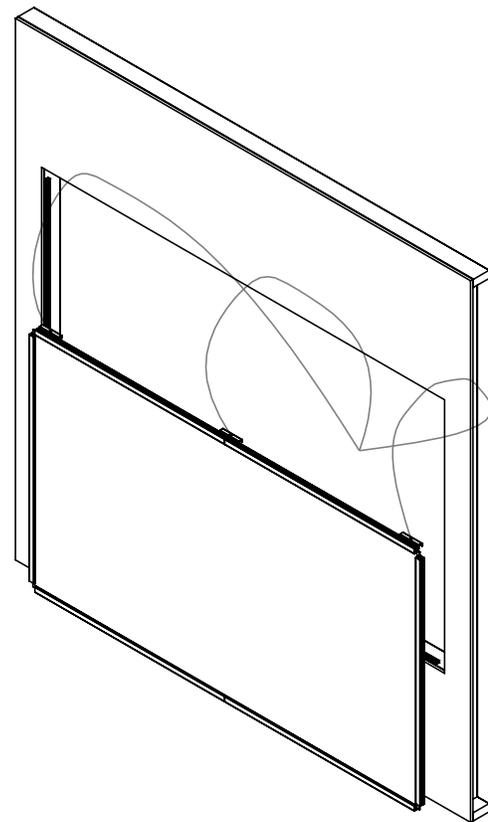

Figure 7
20. Lift the screen assembly to a vertical position on the floor parallel to the wall opening. On the projector side of the wall opening, one person will be holding all three ropes (N) without slack and guiding the screen to an upright position. On the audience side of the wall opening, to lift there should be one person on the left side of the screen, one person on the right and one person supporting the top center of the screen frame at the center hoisting bracket (H). After this step is completed the screen will be standing on the floor in front of the wall opening (See Figure 7)